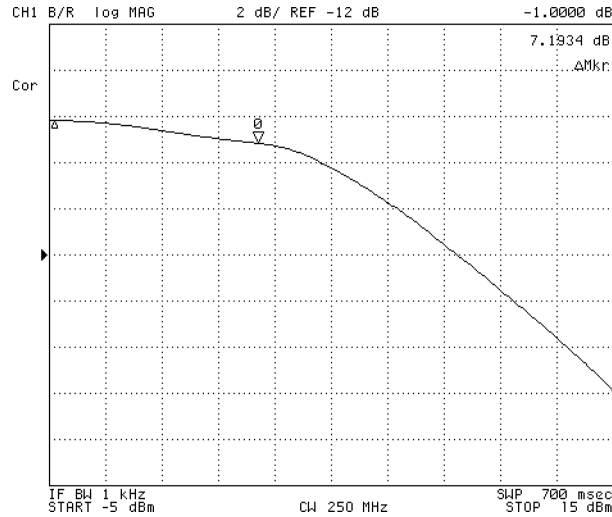

Figure 10-15. Gain Compression
9. Press **[Search]** TARGET **[−]** **[1]** **[x1]** to search for the point of the gain compression. (See Figure 10-15.)